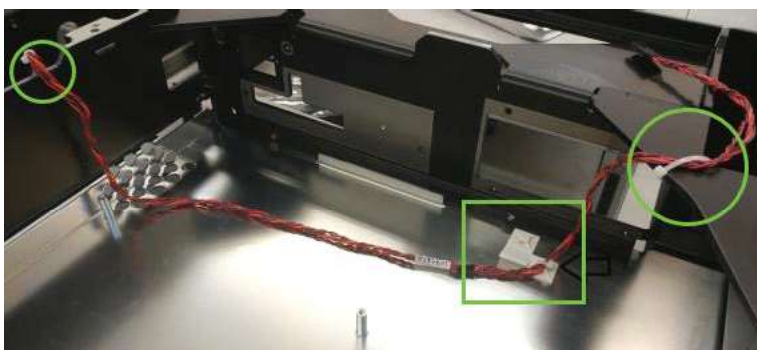

Figure A-1: Routing the under-deck cable on a new instrument
3. Route the cable as shown in Figure A-1, securing it with cable ties where it passes over the edge of the deck. Make sure the cable is behind the standoff near the holes shown.